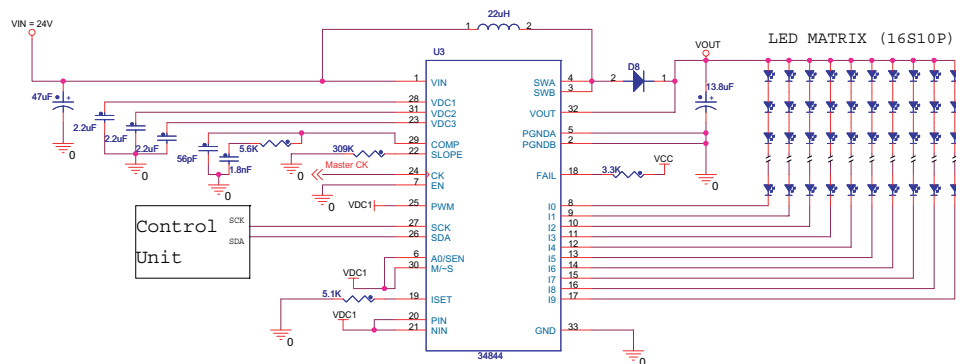

Figure 17. SM-Bus Mode
- + EN pin + PWM signal (Two Signals): In this configuration the PWM signal applied to PWM pin will be in charge of controlling the LED dimming and a second signal will enable or disable the chip through the EN pin. Figure 17